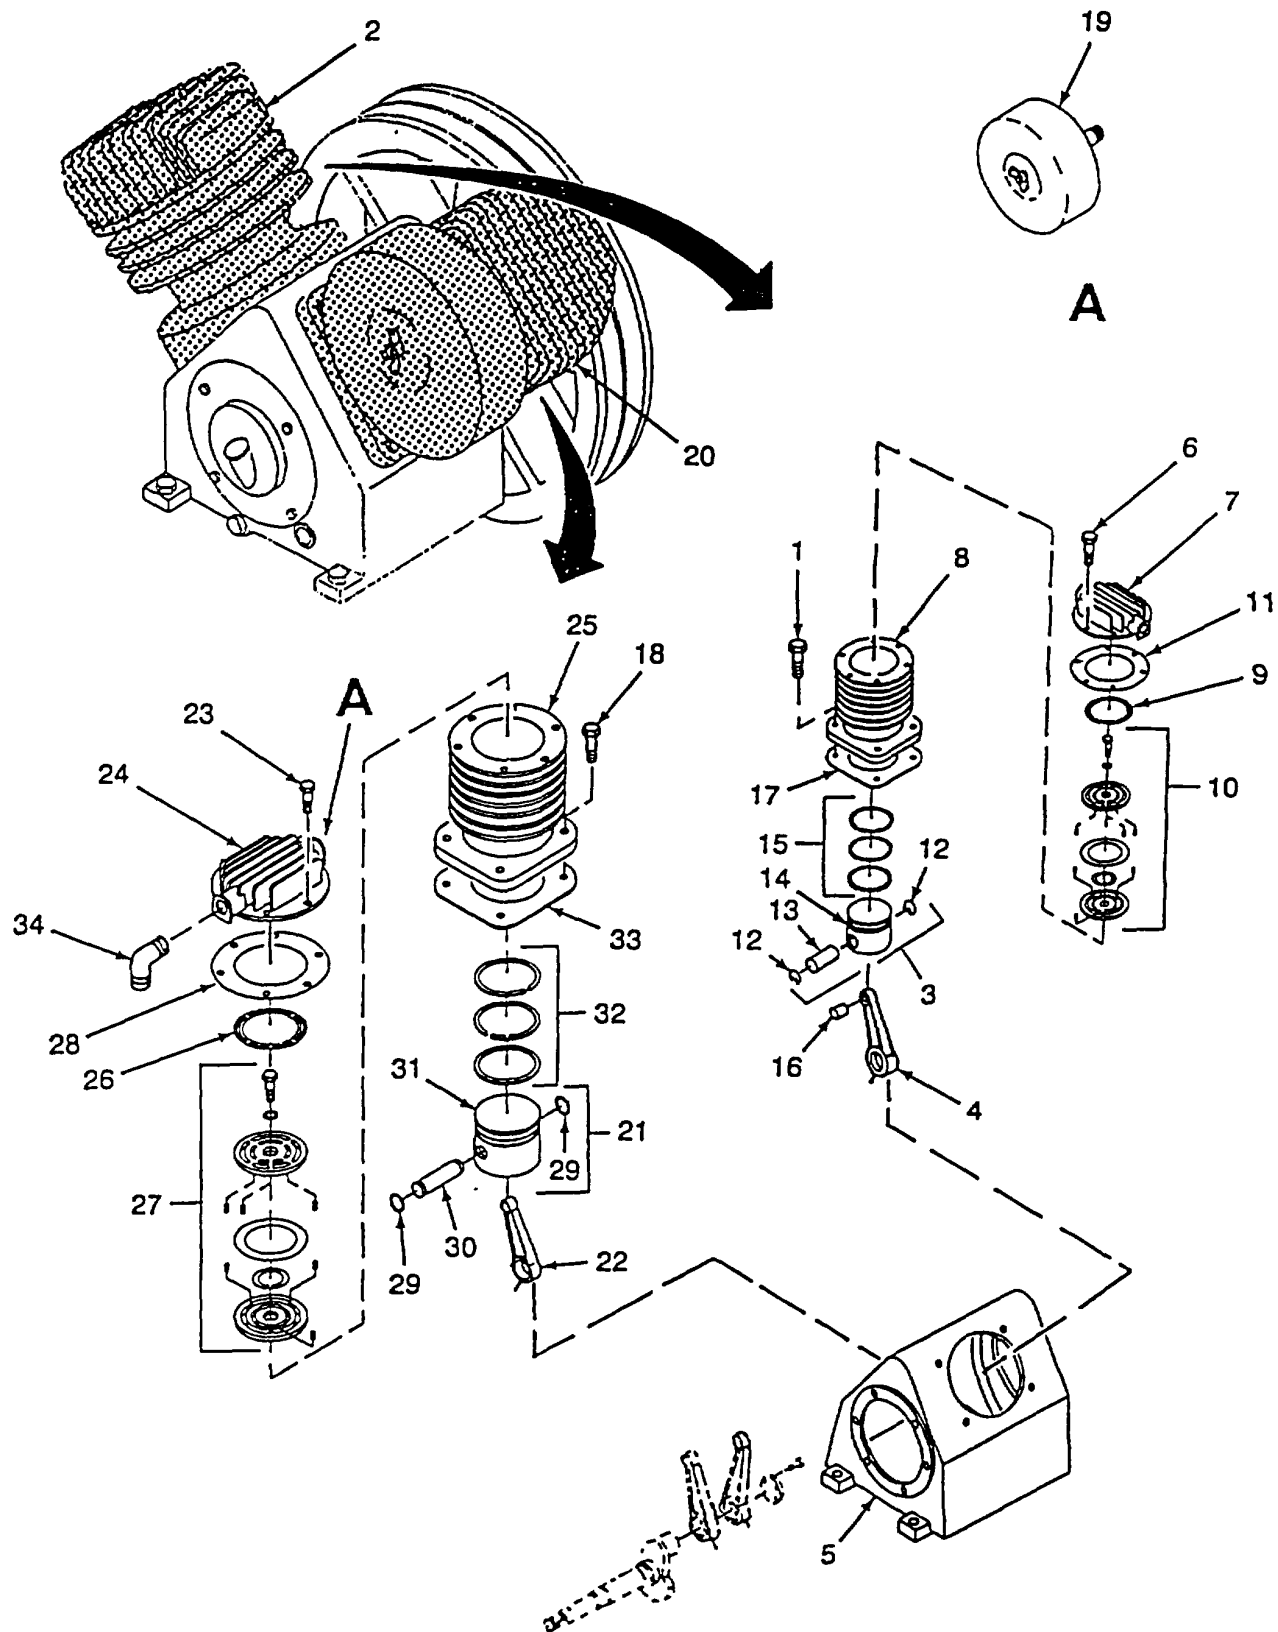

Figure 5-9. Pistons and Connecting Rods and Related Parts
- (18) Remove four bolts (1, Figure 5-9) from high pressure cylinder head assembly (2).
- (19) Remove the high pressure cylinder head assembly (2) with piston assembly (3) and high pressure connecting rod (4) in it from the crankcase (5).
- (20) Remove five bolts (6) from high pressure cylinder head (7) and remove high pressure cylinder head (7) from cylinder (8).
- (21) Remove head gasket (9) and valve gasket assembly (10) from cylinder (8). Discard head gasket (9) and valve gasket assembly (10).
- (22) Remove head gasket (11) from cylinder (8). Discard head gasket (11).
- (23) Remove two snap rings (12) and piston pin (13) from high pressure piston (14).
- (24) Remove piston rings (15) from high pressure piston (14).
- (25) Remove bushing (16) from high pressure connecting rod (4).
- (26) Remove high pressure connecting rod (4) from high pressure piston (14).
- (27) Remove lower gasket (17) from crankcase (5). Discard lower gasket (5).
- (28) Remove four bolts (18) from low pressure cylinder head assembly (20).
- (1) Reassemble the piston (31, Figure 5-9) and connecting rod (22) as follows. Lubricate each piston and connecting rod assembly with a light coat of engine oil.
- (a) Install piston pin (30) through piston (31) and connecting rod (22). Secure with snap rings (29).
- (b) Install piston rings (32) in piston (31).
- (2) Install the assembled piston assembly (21) and low pressure connecting rod (22) into the crankcase (5).
- (3) Slide the low pressure connecting rod (22) onto the crankshaft.
- (4) Align the holes in the lower gasket (33) with holes in the crankcase (5).
- (5) Align the holes in the cylinder (25) with lower gasket (33) and crankcase (5).
- (6) Install four bolts (18) through the flange on the cylinder (25), lower gasket (33) into the crankcase (5) Tighten.
- (7) Install new valve gasket assembly (27) into cylinder (25) Align the holes in head gasket (28) with holes in the cylinder (25).
- (8) Align low pressure cylinder head (24) holes with holes in head gasket (28) and cylinder (25).
- (9) Install six bolts (23) through low pressure cylinder head (24), head gasket (28) and cylinder (25). Tighten.
Run the air pump long enough to warm up Shut down the air pump and retorque cylinder head bolts (6 and 23, Figure 5-9) to 30 ft. lbs.